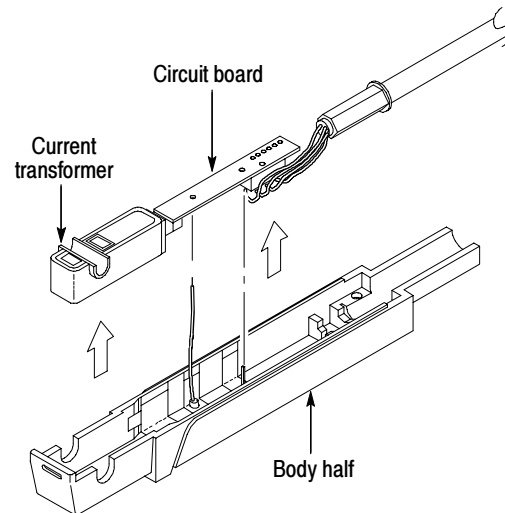

Figure 15: Removing the current transformer
7. To remove the circuit board, unsolder the two connections then lift the strain relief and circuit board from the body half. Refer to Figure 15.